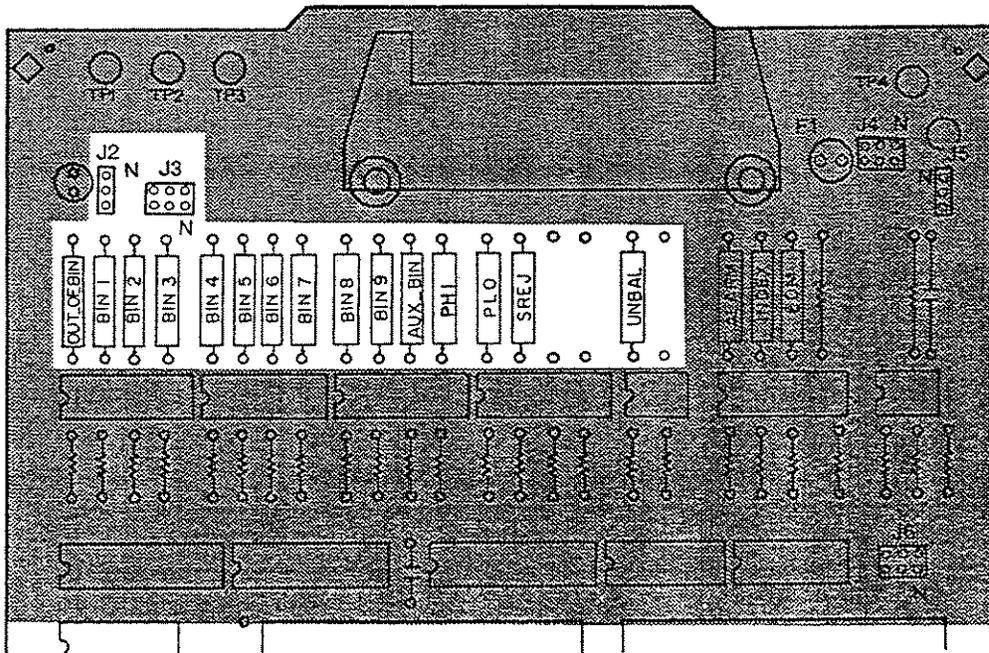

Figure 2-11. How to Set Up the Handler Interface Board (1)
9. Install jumpers according to Table 2-6, (See Figure 2-11).